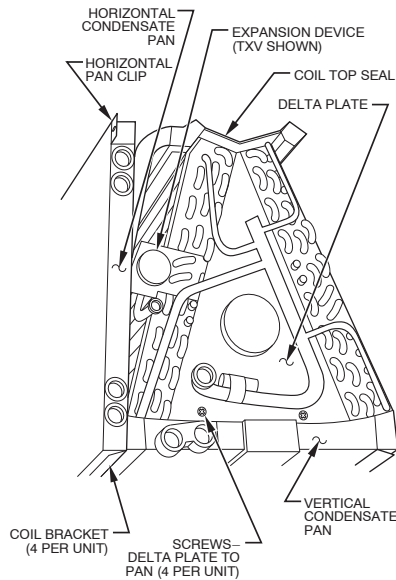

Fig. 22 - A-Coil Component Location
8. **Upflow or Horizontal Applications Only**—Remove horizontal condensate drain pan from coil/condensate pan assembly. (See Fig. 22.)
9. Remove the four coil brackets. (See Fig. 22.)
10. Remove screws at delta plates and remove coil from vertical condensate drain pan. (See Fig. 22.)
11. **Horizontal Applications Only**—Remove coil top seal (attached with four screws) and J-shaped tube from original coil and install it in same position on new coil. (See Fig. 22.)
12. Place coil assembly in plastic condensate pan and secure using four screws through delta plate. (See Fig. 22.)
13. **Horizontal and Upflow Applications Only**—Attach the four coil brackets to coil/pan assembly. (See Fig. 22.)
17. **Horizontal Applications Only**—Reinstall horizontal pan clip. Secure with one screw. (See Fig. 22.) Reinstall coil access panel.